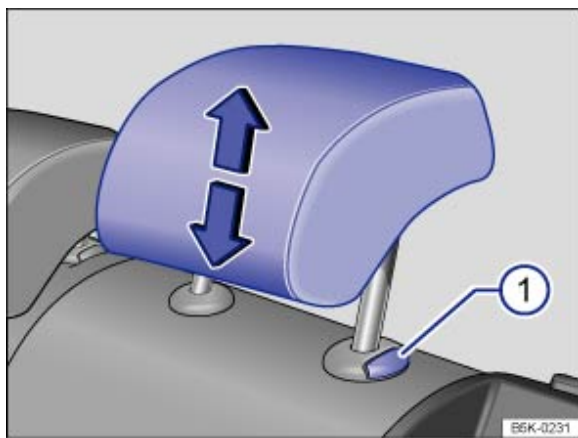

Fig. 48 Removing the rear head restraints
- Press the button → *Fig. 48*  while a second person pulls the head restraint out fully.
- Press and hold the button → *Fig. 48*  and push down the head restraint.